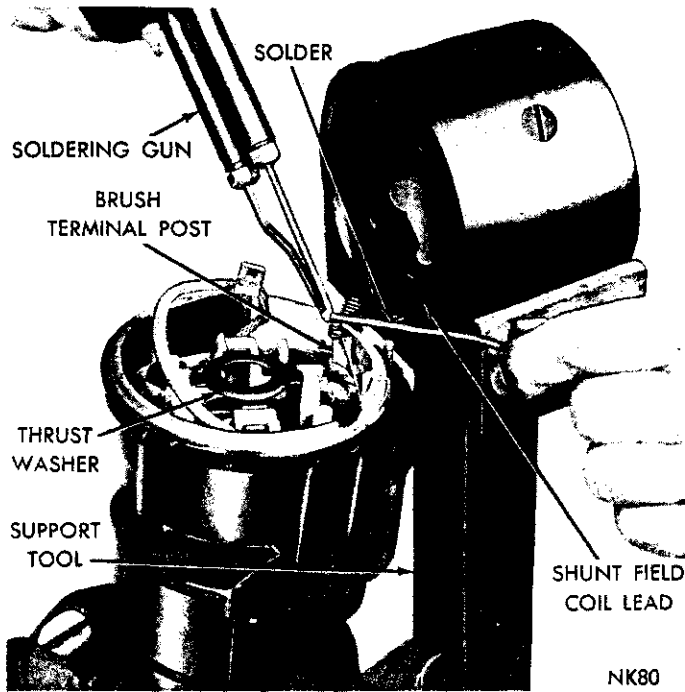

Fig. 21—Soldering Shunt Coil Lead Wire
(17) Solder shunt coil lead wire to starter brush terminal (Fig. 21).